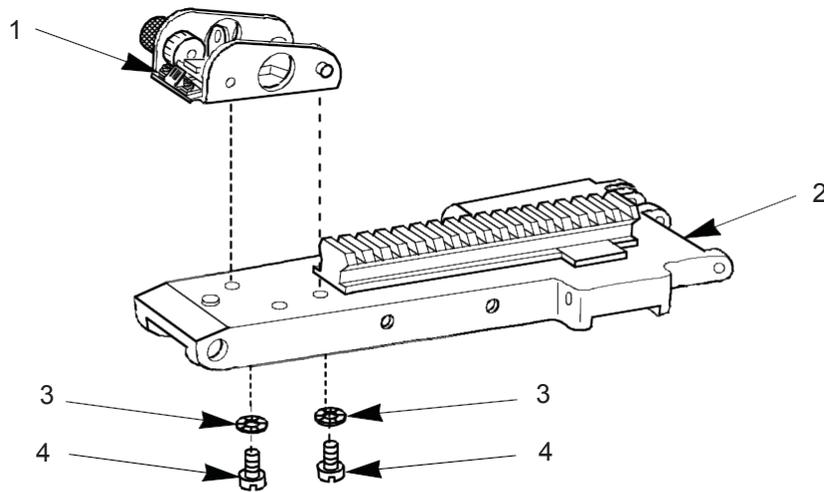

Figure 47. Rear Sight Assembly, Cover, Two Screws, Washers.
20. Position rear sight assembly (Figure 47, Item 1) onto cover (Figure 47, Item 2) with peep sight to the rear. Install two screws (Figure 47, Item 4) with two new lock washers (Figure 47, Item 3) through bottom of cover (Figure 47, Item 2) and tighten securely.